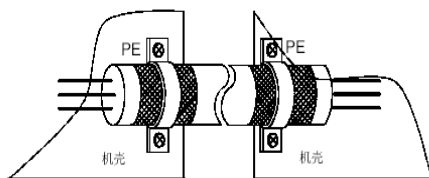
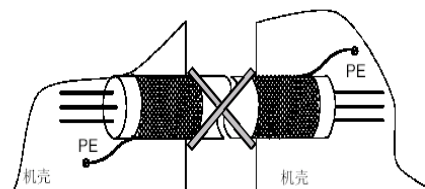

Figure A.4 Correct shielded grounding method
Figure A.5 Incorrect shielded grounding method
Generally, control cables shall be shielded cables and the shielded metallic wire net must be connected with the metallic cabinets in a 360° ring-type connecting way via cable clamps as shown in the Figure A.4. The shielded grounding method shown in Figure A.5 is incorrect.
- (1) The inverters shall be installed inside the cabinet and the shells of peripheral equipment such as the baseplate of inverters and the input filters shall be fixed on the backpanel of the control cabinet to ensure sound electrical contact with the backpanel. The distance between the inverters and the filters shall be kept less than 15cm so as to make the high-frequency impedance between the inverters and the input filters to the minimum and reduce high-frequency noise.
- (2) A wide grounding block shall be installed at the inlet of the control cabinet (not more than 5cm from the outlet) and the shielded layer of all the cables incoming and outgoing the cabinets shall be fixed on the ground block via a 360° ring connection way to ensure sound electrical contact.
- (3) The motor cables must be shielded cables and had better be cables shielded dually with screw metallic tape and metallic wire net. The shielded layer of the motor cables must be fixed on the backpanel of the cabinet with metallic cable clamps via a 360° ring connection way as shown in Figure A.4). There are two fixing locations: one is as close as possible to the inverter (better to be less than 15cm); the other is on the ground block. The shielded layer of the motor cables shall be connected with the motor's metallic shell via a 360° ring connection way when the motor goes through the motor terminal boxes. If there is any difficulty, the shielded layers can be stranded mutually into a plait which shall be connected to the ground terminal of the motor after it spread flat. The spread width shall be larger than 1/5 of the length of the plait. The cable cores of the motors and its PE flexible plait shall have an outgoing line as short as possible (better to be less than 5cm).
- (4) The terminal control cables must be shielded cables. The shielded layer shall be connected to the ground block at the inlet of the cabinet with metallic cable clamps via a 360° ring connection way. At the inverter end, metallic